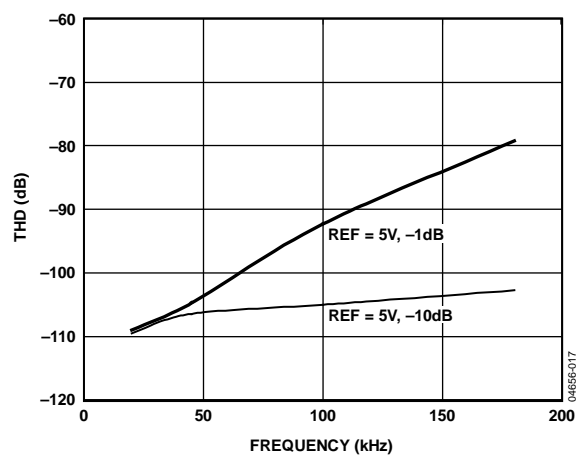

Figure 17. THD vs. Frequency
- For ac applications, the driver should have a THD performance commensurate with the AD7946. Figure 17 shows the THD vs. frequency that the driver should exceed.